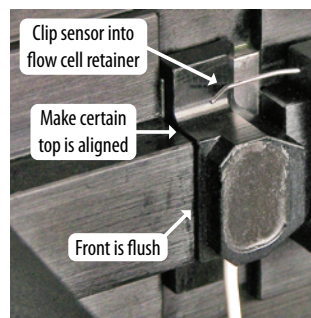

Figure 4. Clip the sensor into place using the flow cell retainer.
- Make sure the sensor has a light coating of dielectric grease and then clip it into the flow cell retainer. Look at the sensor top and front to make certain it is properly aligned (**Figure 4**).